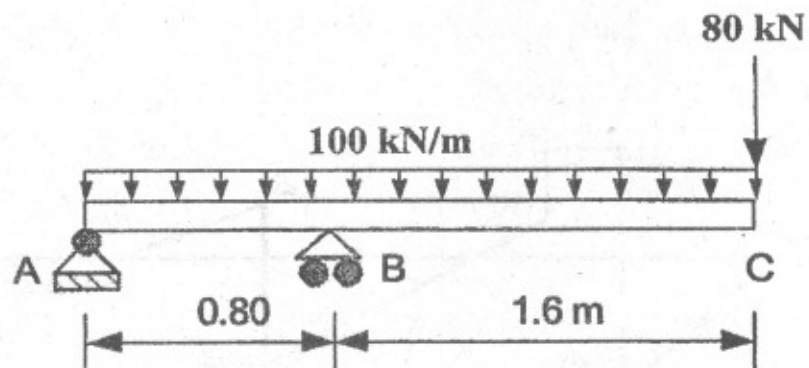

Fig. 6
- (b) Plot the shear force and bending moment diagrams for the beam loaded as shown in Fig. 6 : [8]